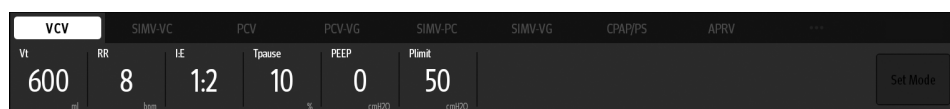

Figure 6-2 Ventilation Mode Tabs
1. Select the tab of the desired ventilation mode. The [Set Mode] button (or [Preset Mode] button in manual mode) will flash (Figure 6-2).